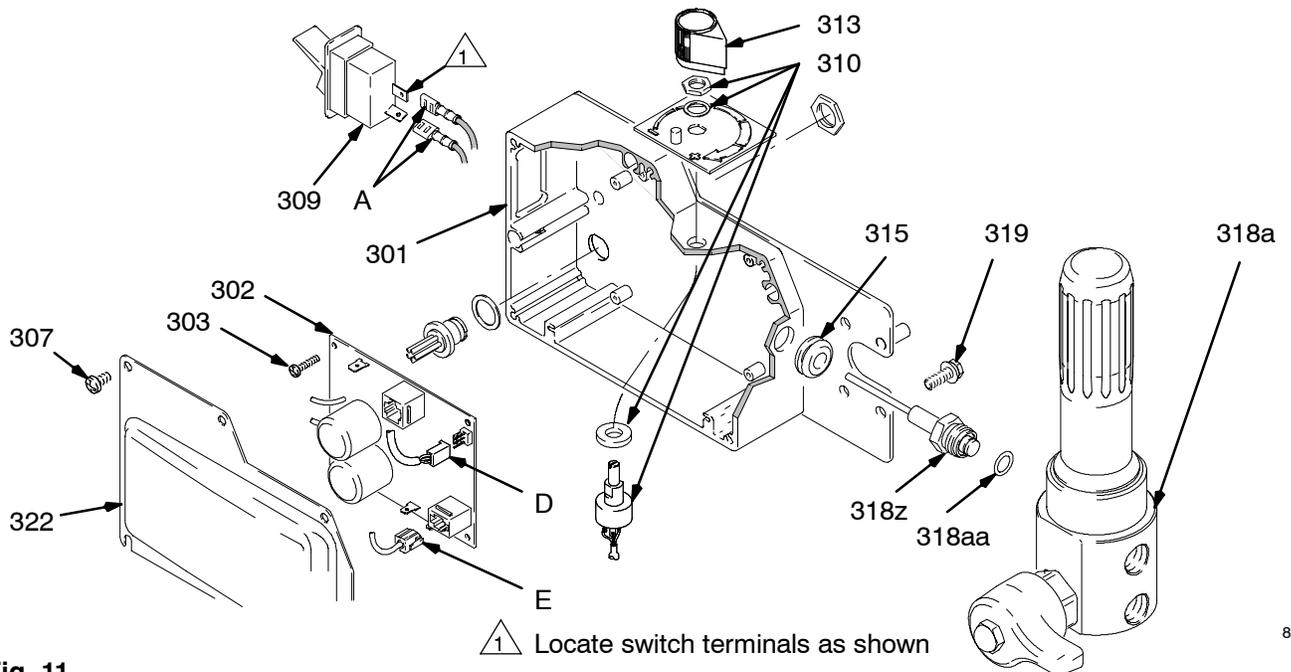

Fig. 11
2. Fig. 11. Remove five screws (307) and cover (322).
3. Disconnect two wires (A) from ON/OFF switch (309).
4. Press in on two retaining tabs on each side of ON/OFF switch (309) and remove.
- Fig. 11. Remove five screws (307) and cover (322).
- Fig. 11. Install control board (302) and green ground wire with five screws (303).
- Connect to control board (302):
- Two red leads (A) to ON/OFF switch (309).
- Lead (E) to transducer.
- Lead (D) to potentiometer.
- Install cover (322) with five screws (307).
- Disconnect lead (E) from control board (302).
- Remove three screws (319) and fluid filter (318) from control plate (301). Carefully pull transducer connector through rubber grommet (315).
- Fig. 11. Install packing o-ring (318aa) and pressure control transducer (318z) in filter housing (318a). Torque to 30–35 ft-lb.
- Carefully feed transducer connector through rubber grommet (315). Install fluid filter (318) on control plate (301) with three screws (319).
- Connect lead (E) to control board (302).
- Disconnect lead (D) from control board (302).
- Loosen set screws on potentiometer knob (313) and remove knob, shaft nut, lockwasher (310) and pressure adjust potentiometer (310).
- Remove seal (311) from potentiometer (310).
- Install seal (311) on potentiometer (310).
- Fig. 11. Install pressure adjust potentiometer (310), shaft nut, lockwasher (310) and potentiometer knob (313).
- Turn potentiometer shaft (310) clockwise to internal stop. Assemble potentiometer knob (313) to strike pin on plate (312).
- Connect lead (D) to control board (302).
1. Fig. 11. Remove five screws (307) and cover (322).